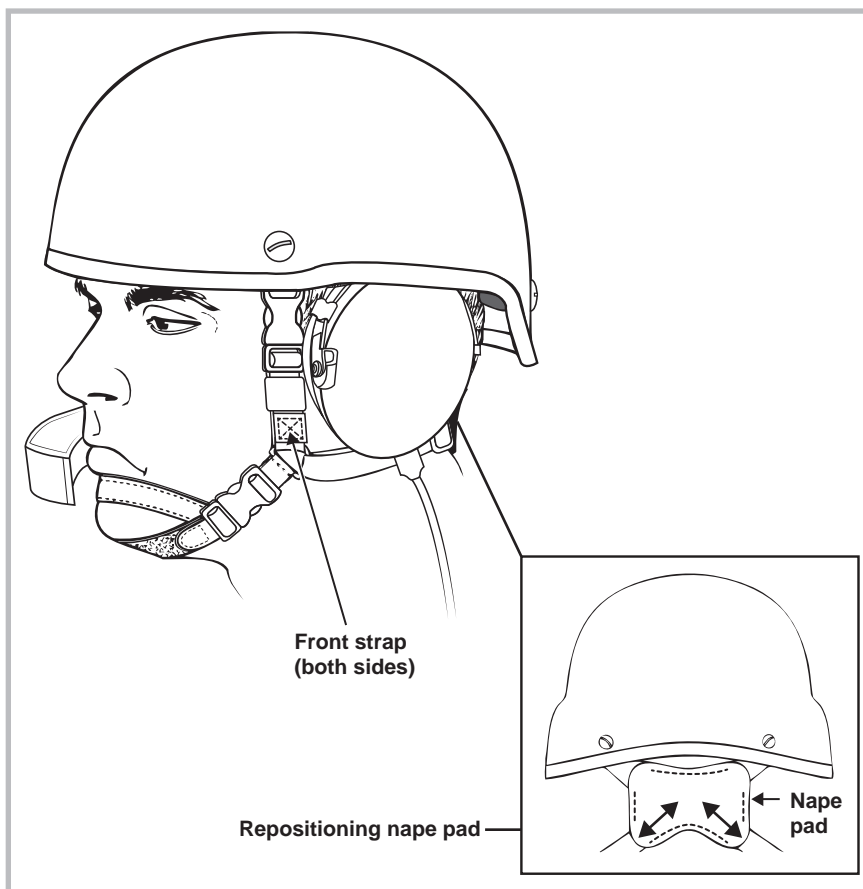

Figure 8. Adjusting Front Straps and Nape Pad
6. Referring to **Figure 8**, do the following: